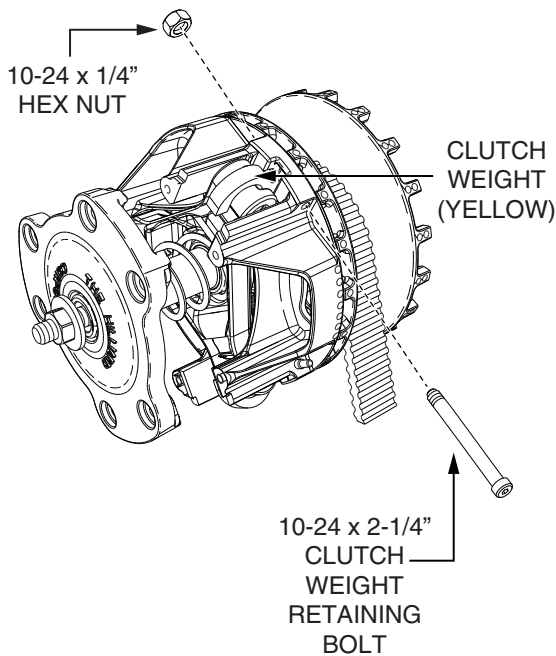

Figure 8. Clutch Weight Bolt Removal
- Using a 3/8" wrench and 3/32" allen wrench, remove the 10-24 x 2-1/4" clutch weight retaining bolts (3) and 10-24 x 1/4" hex nuts (3) as shown in Figure 8.